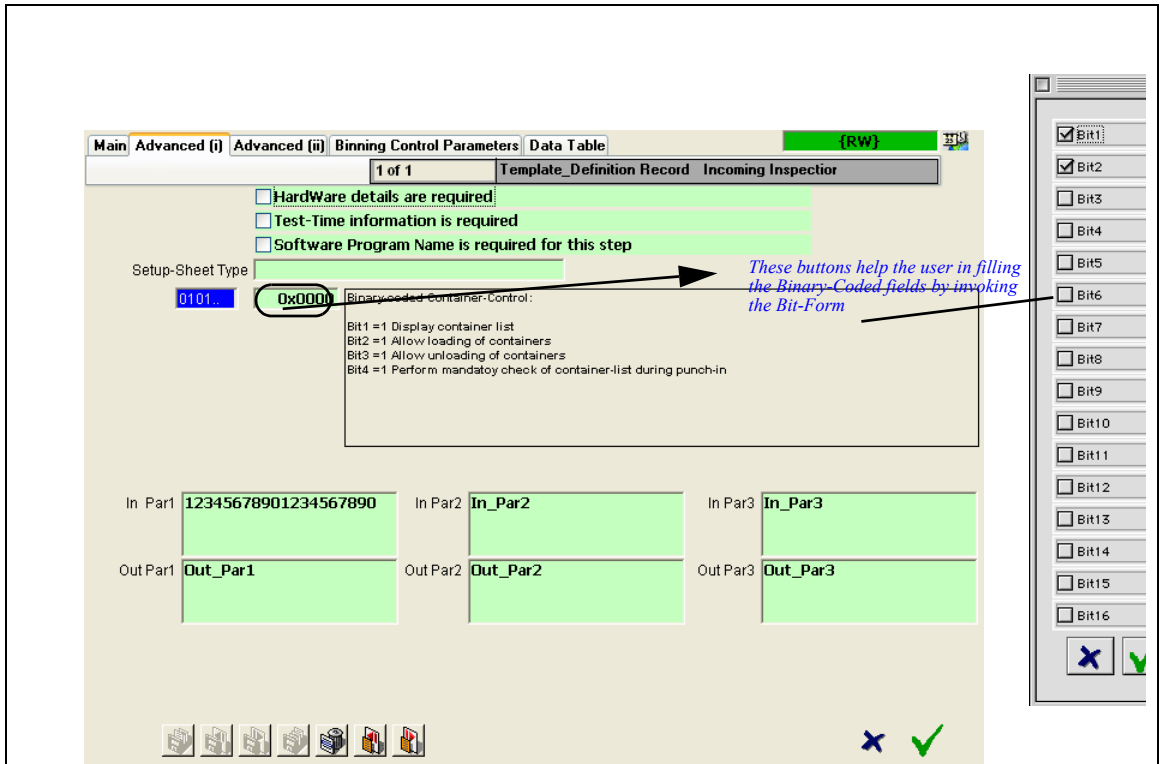

FIGURE 9.28
Configuration fields of Template-Definition record (Advanced (1) Tab). See figure 9.28